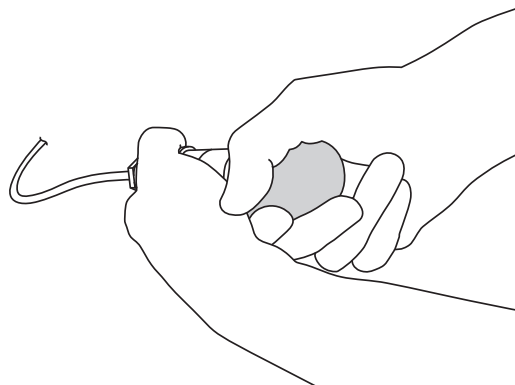

Figure 7 Hold the DO30G and protective cap.
- (1) Hold the protective cap while holding the DO30G as shown in the figure 7.